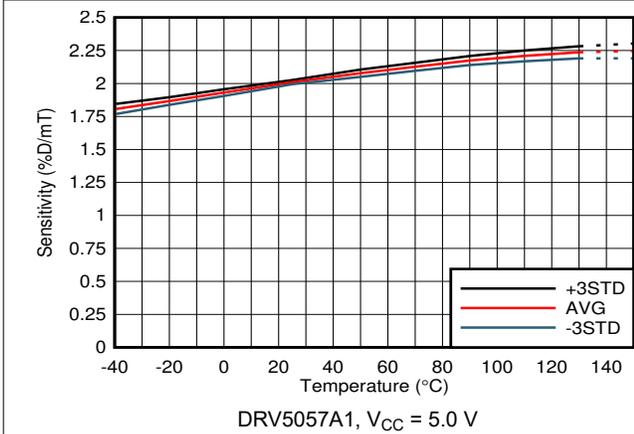

图 6-7. Sensitivity vs Temperature
- (1) B is the applied magnetic flux density.
- (2) See the # 7.3.2 section.
- (3) B_L describes the minimum linear sensing range at 25°C taking into account the maximum V_Q and sensitivity tolerances.
- (4) S_{TC} describes the rate the device increases Sensitivity with temperature. For more information, see the # 7.3.4 section and 图 6-7 to 图 6-20.
- (5) Product Preview data only for DRV5055Z1 - DRV5055Z4 device options.